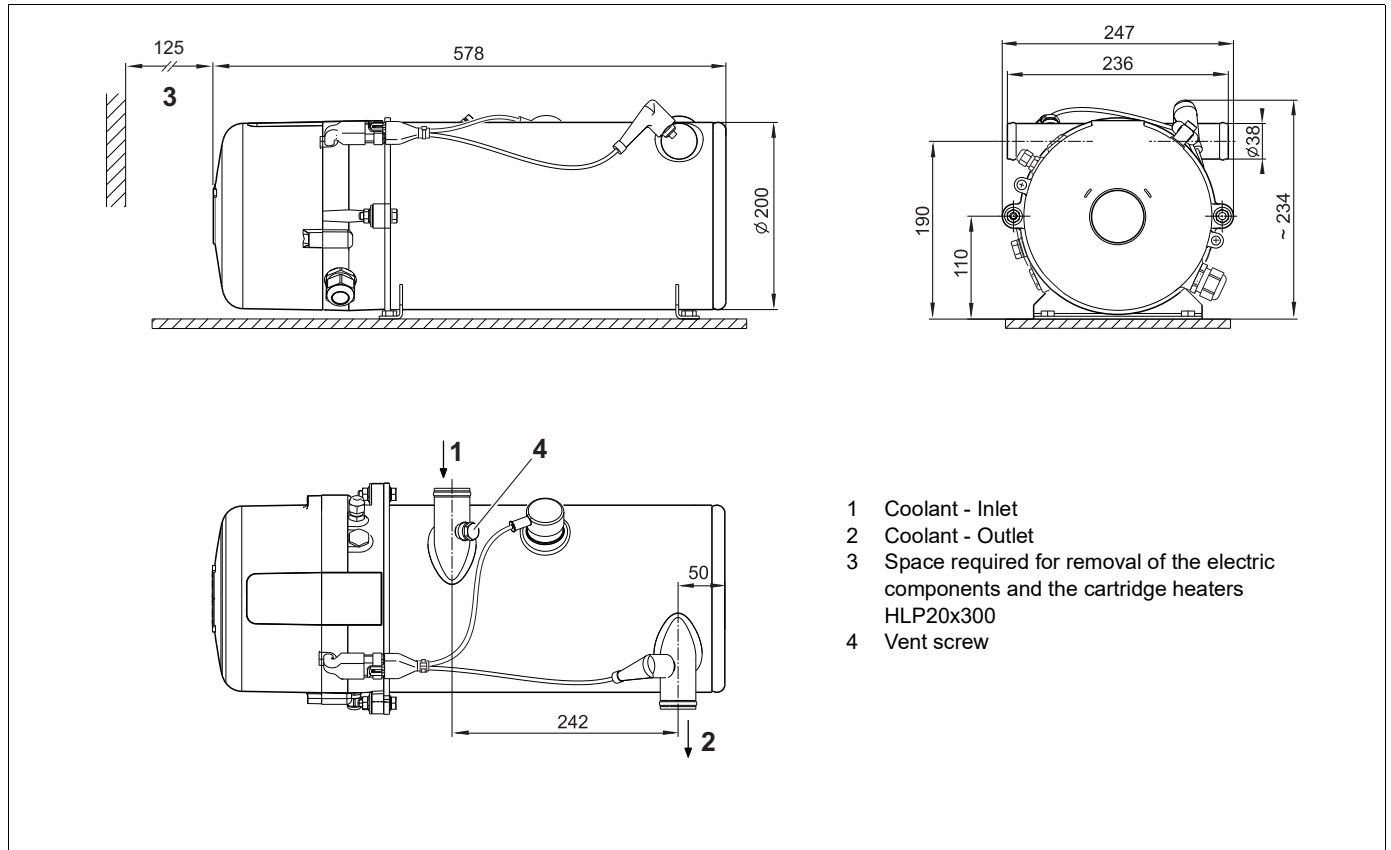

Figure 12: Dimensions of the heating appliance Thermo AC
The dimensions of the heating appliance, the permitted installation locations, and the hole pattern for the fastening can be found in figures 12 and 13.
The heating appliance is connected to the vehicle's cooling system according to figure 12. The volume of coolant fluid present in the circuit must be at least 25 litres. The water in the heating circuit of the heating appliance must contain at least 30 to 60% of a branded antifreeze agent. An up-to-date list of Valeo recommended anti-freeze agents can be found on the Valeo website.
When installing the electric heater the direction of the flow of the cooling water in the circuit is to be considered (see figure 12).
For that the additional venting option via the vent screw item 4, figure 12 is to be used after the system has been filled and the pump has been switched on.